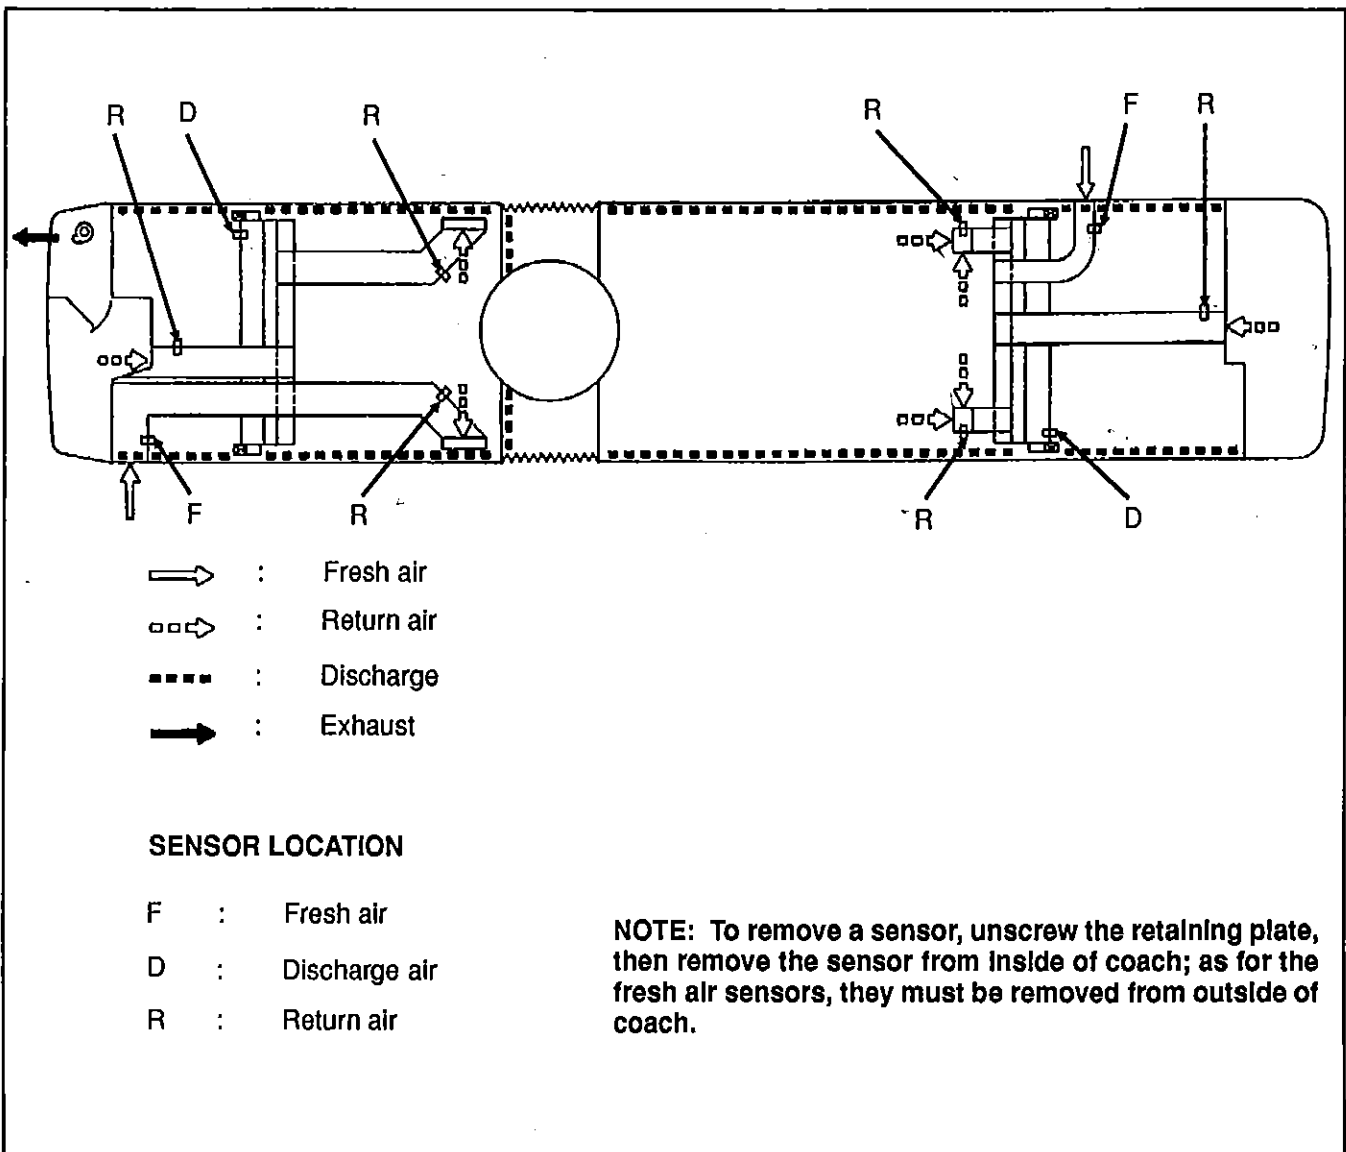
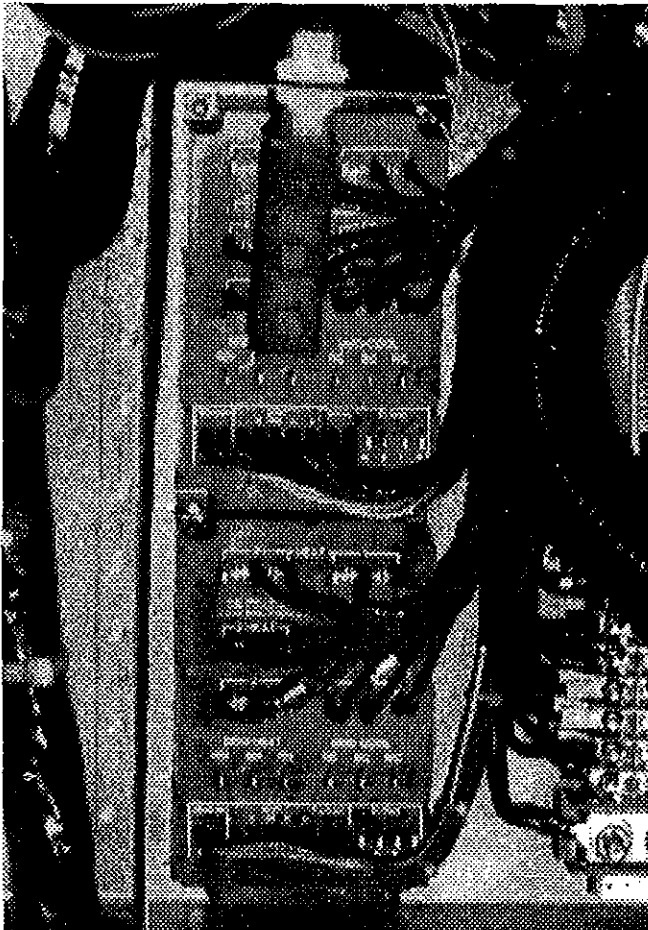
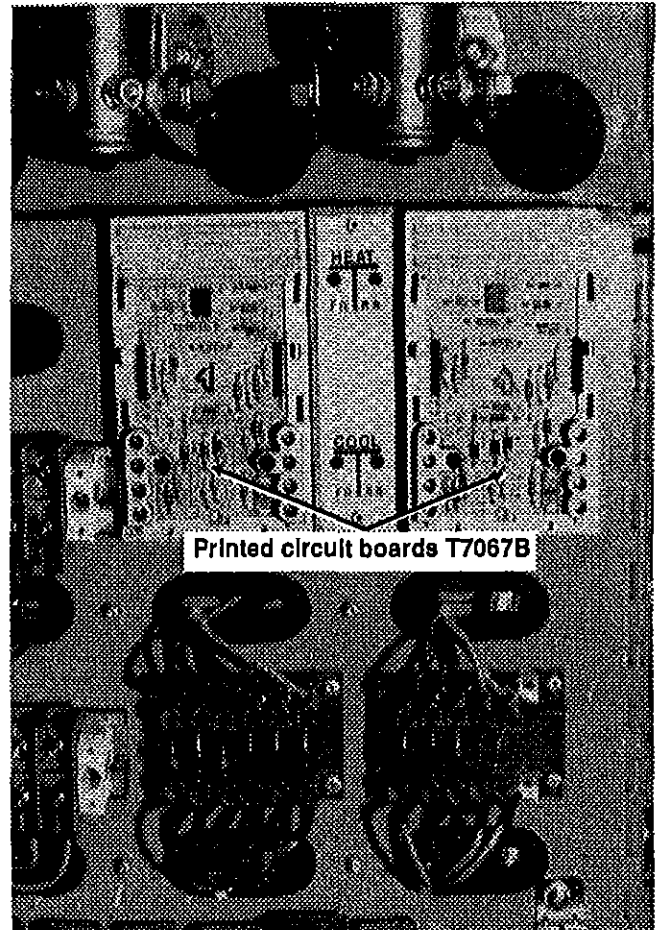
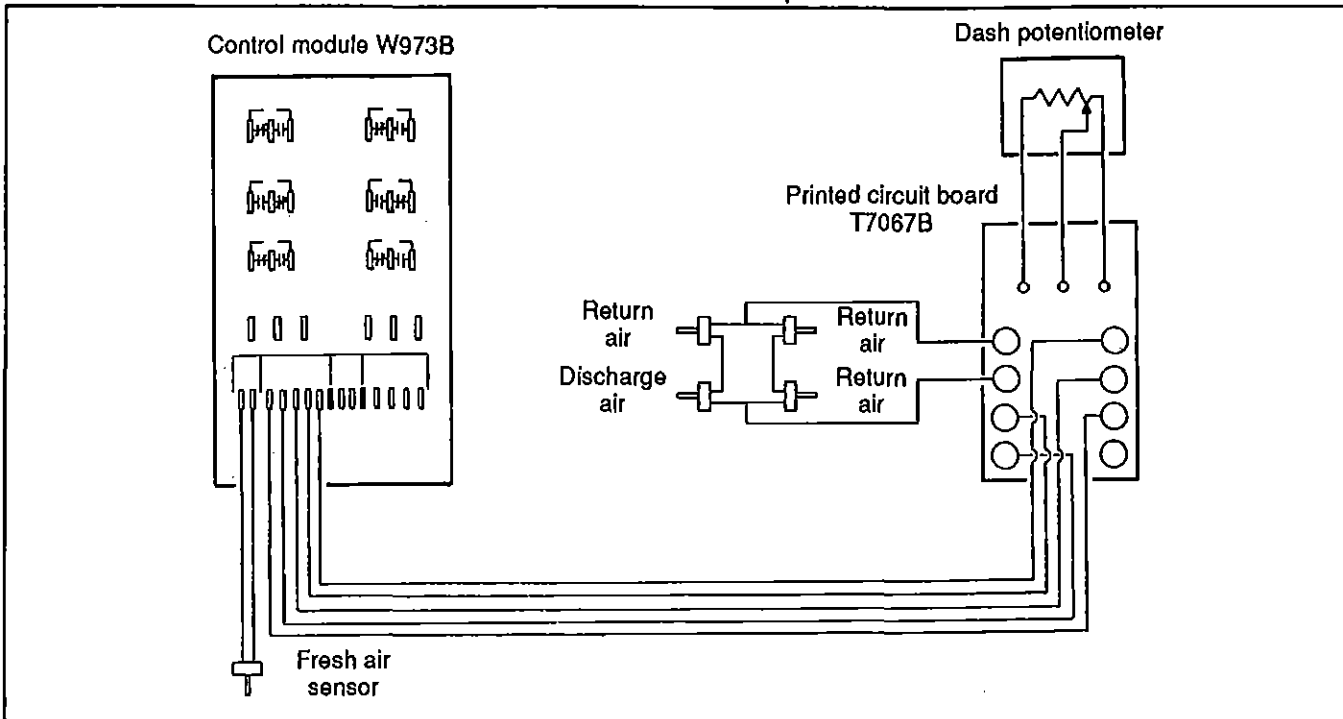

FIG. 3 - Main system air circulation
FIG. 4 - Control modules W973B
FIG. 5
FIG. 6
Return air is drawn from two underseat air return boxes and through an entrance step riser (see fig. 3).
The HVAC unit of rear section is identical to the front section unit. Air flow follows about the same path as in the front zone, except that the returning air is drawn from the ventilation duct inlets, located on both sides of the floor near the articulation and in the step riser near the lavatory (see fig. 3). Part of the air is also discharged in the articulation area.
Temperature control of each main system is connected to a Honeywell W973B control module (see fig. 4). Air temperature is picked up by three (3) identical sensors, each one located in one of the three (3) returning air ducts, and by another sensor located in the ventilation duct (see fig. 3). As shown on figure 6, the sensors are series-parallel connected. The printed circuit board T7067B (see fig. 5) detects the sensor signal and then compares it with the driver's setpoint (A/C-heating control).
Remove screen over the air return box inside the vehicle (refer to fig. 3 for sensor location), disconnect the sensor connector, and with an ohmmeter, note sensor reading. Compare reading with data of Table 2 given in the "Recirculated Air Sensor" curve. The four (4) sensor curve is again used, since each sensor, taken individually, has the same resistance than the four (4) series-paralleled sensors taken together.